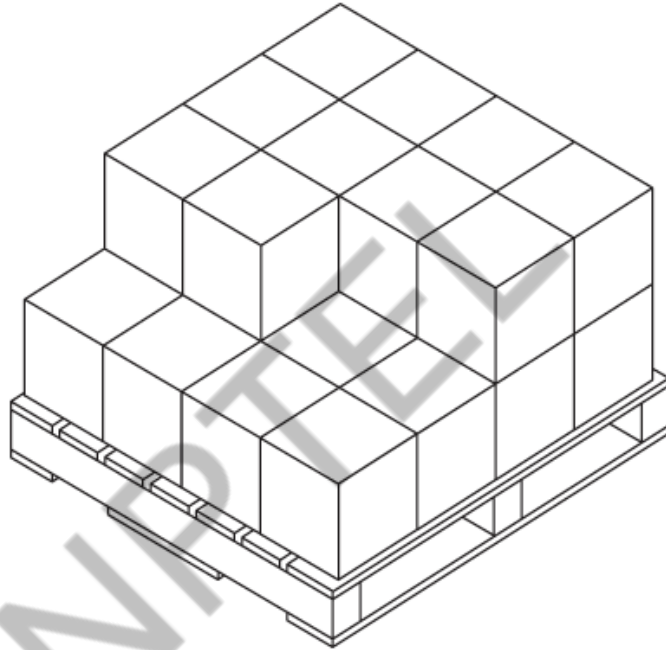

Figure 8.11 Typical part arrangement for a robot palletizing operation.
- The problem is illustrated in Figure 8.11.